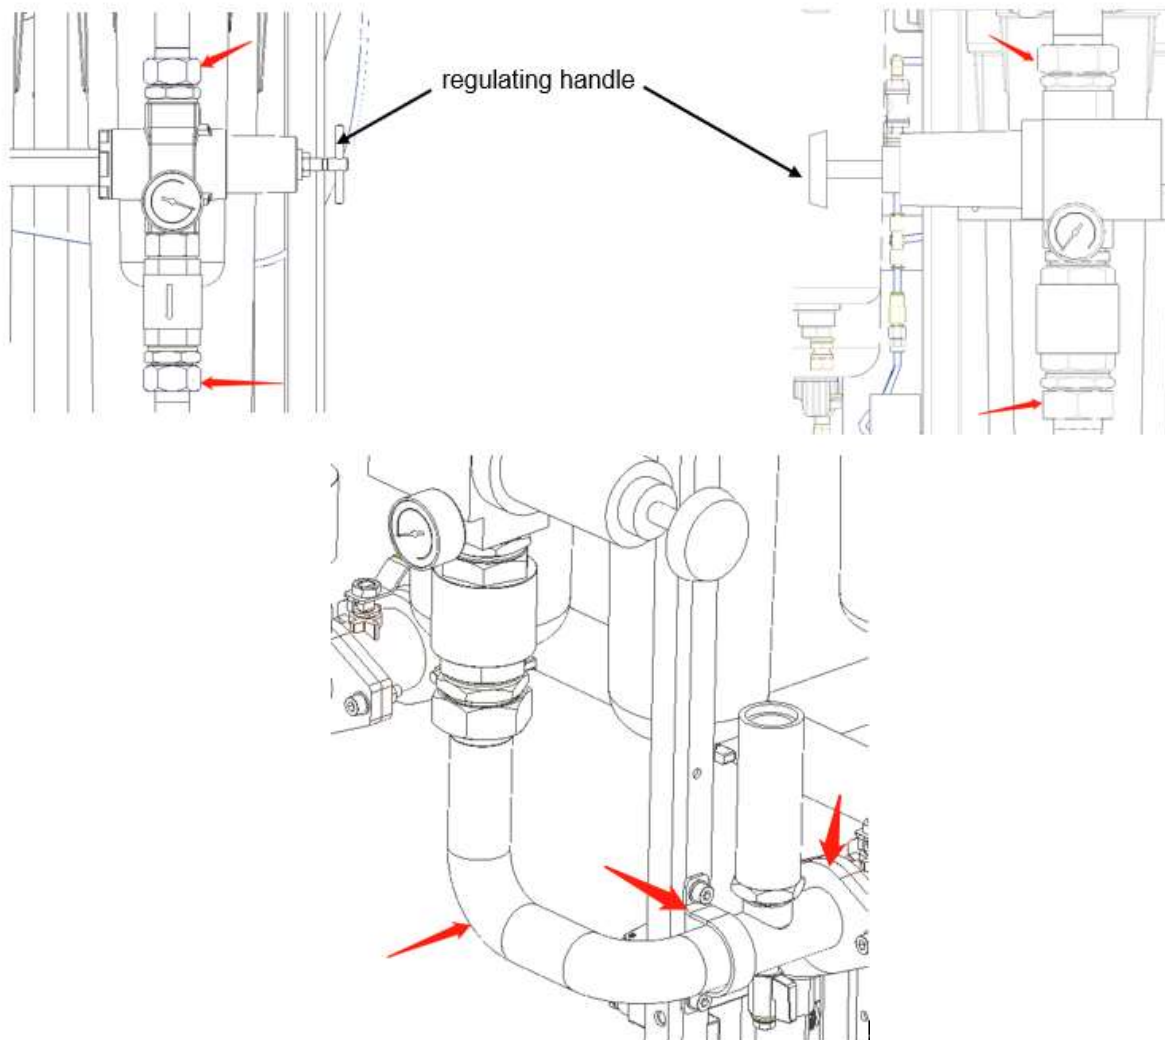

Figure 102
2. Unscrew union joints, remove pipe clamp and disconnect the flange to fully remove the pipe under the regulator refer to *Figure 102*.